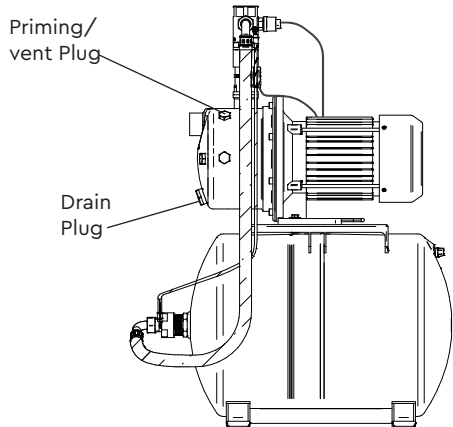

Fig. 7
5.13 Priming: Prior to switching the pump on and connecting the outlet hoses to the system pipework the pump chamber must be primed. The pump must be primed (filled with water) before starting. Turn on water supply, prime and vent the pump by unscrewing the priming plug (Fig. 7) slowly until all air escapes and water emerges. Re-tighten the plug.